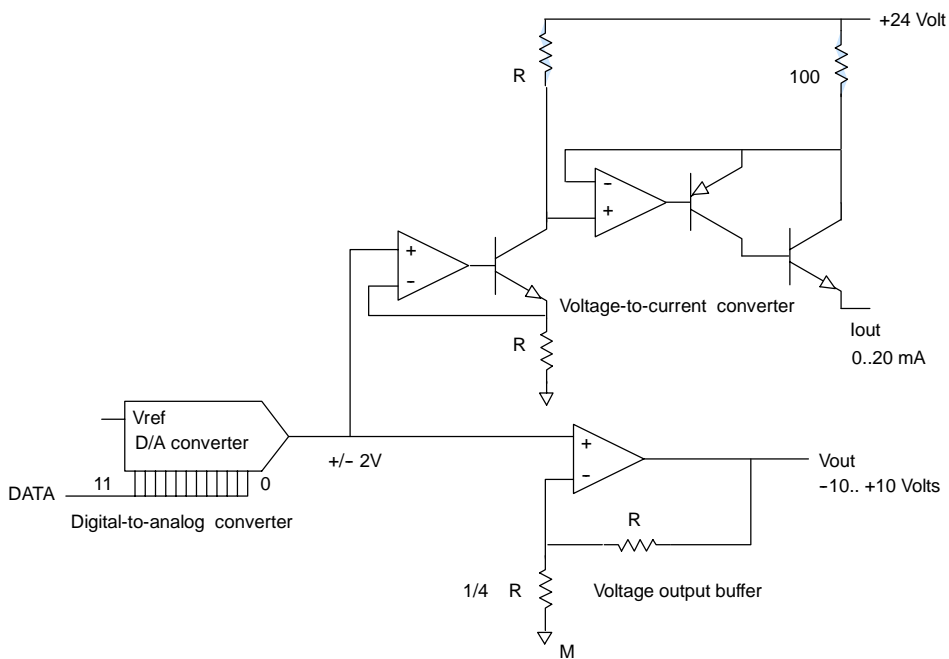

Figure A-21 Output Block Diagram for the EM 232 and EM 235
- Short the inputs for any unused channels, as shown in Figure A-21.